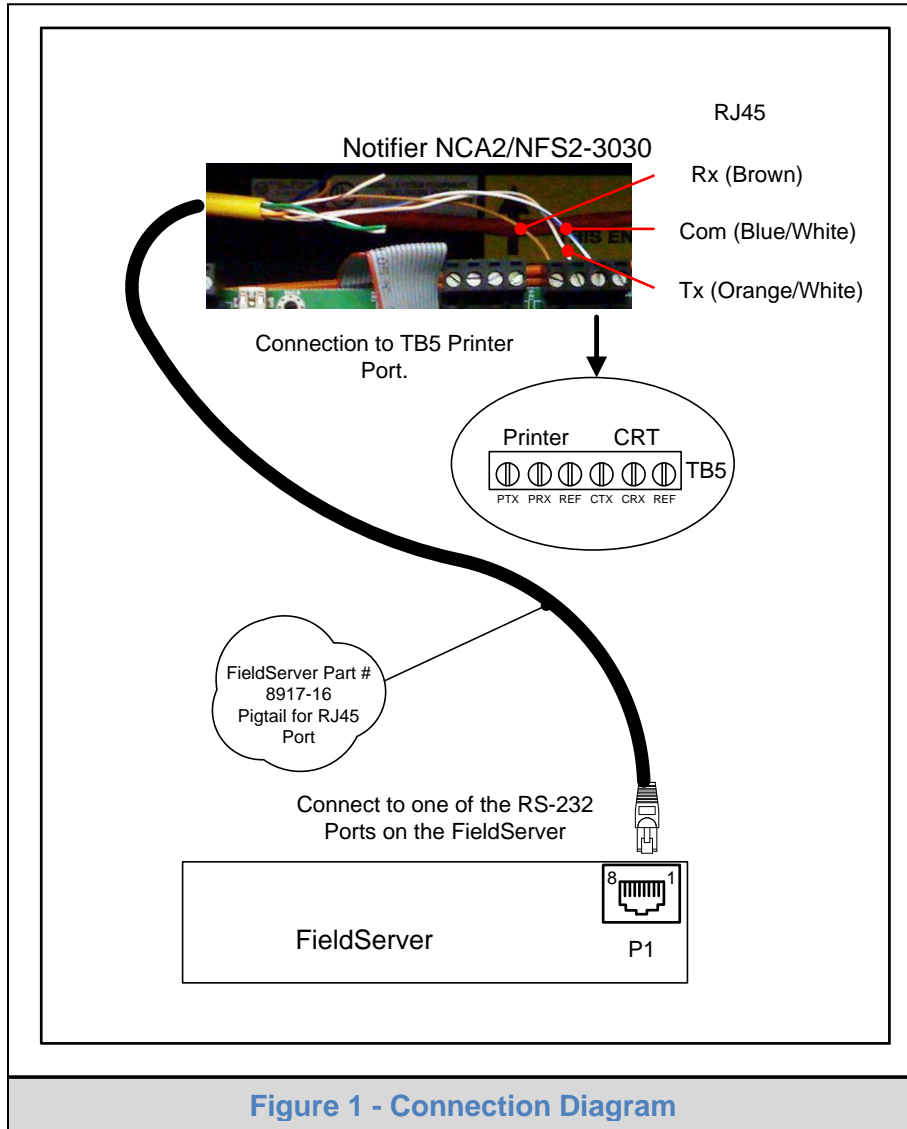

Figure 1 - Connection Diagram
- Figure 1 - Connection Diagram ..... 5**